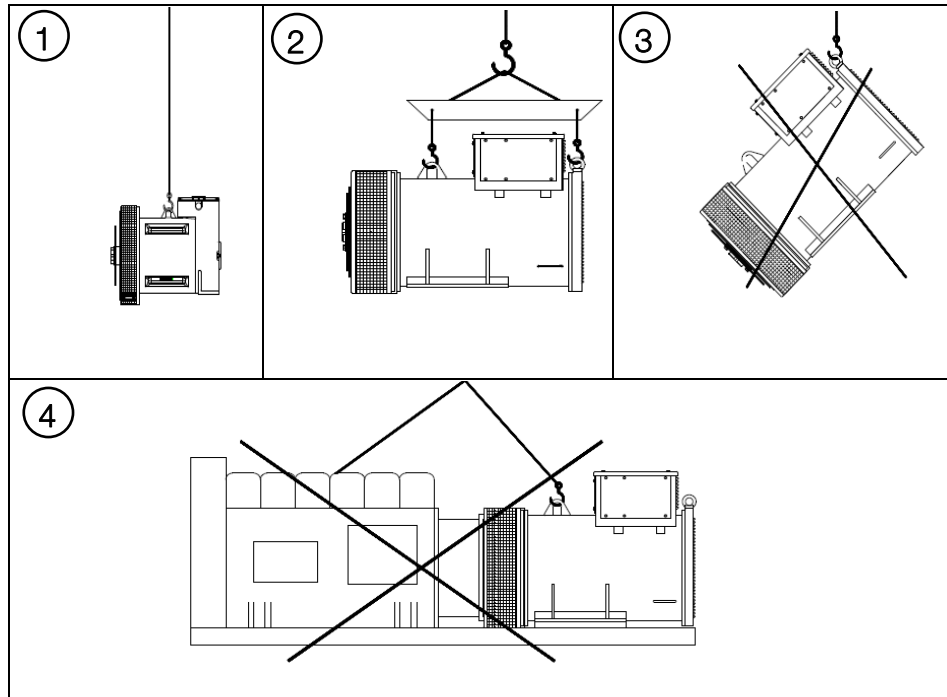
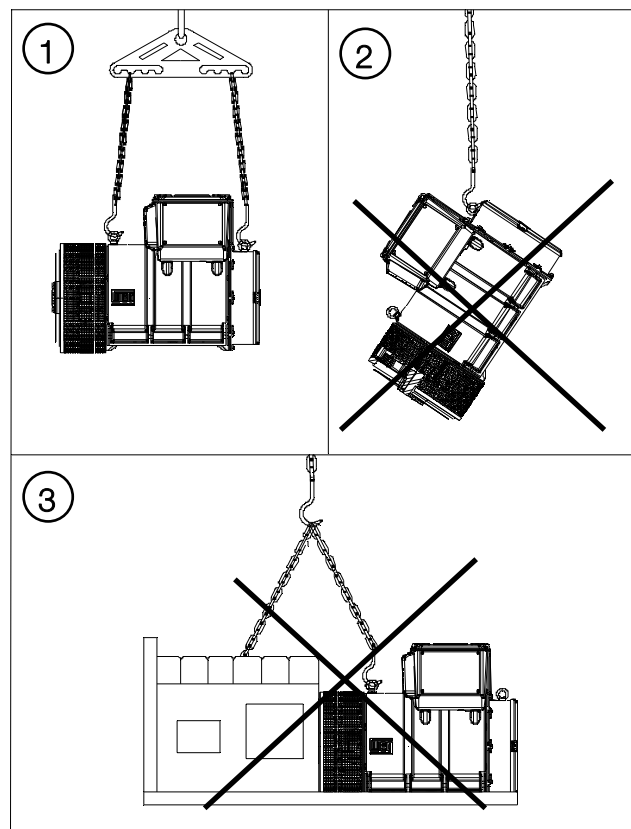

Figure 4.1: Handling of alternator Line G
Figure 4.2: Handling of alternators Line AG10
- All the lifting points shall be used, according to the tables 1 and 2 of Figure 4.1 and table 1 of Figure 4.2;
- It is not allowed to lift additional loads, according to table 4 Figure 4.1 and table 3 of Figure 4.2;
- It is not allowed to lift only by the front or back of the alternator, according to table 3 of Figure 4.1 and table 2 of Figure 4.2.